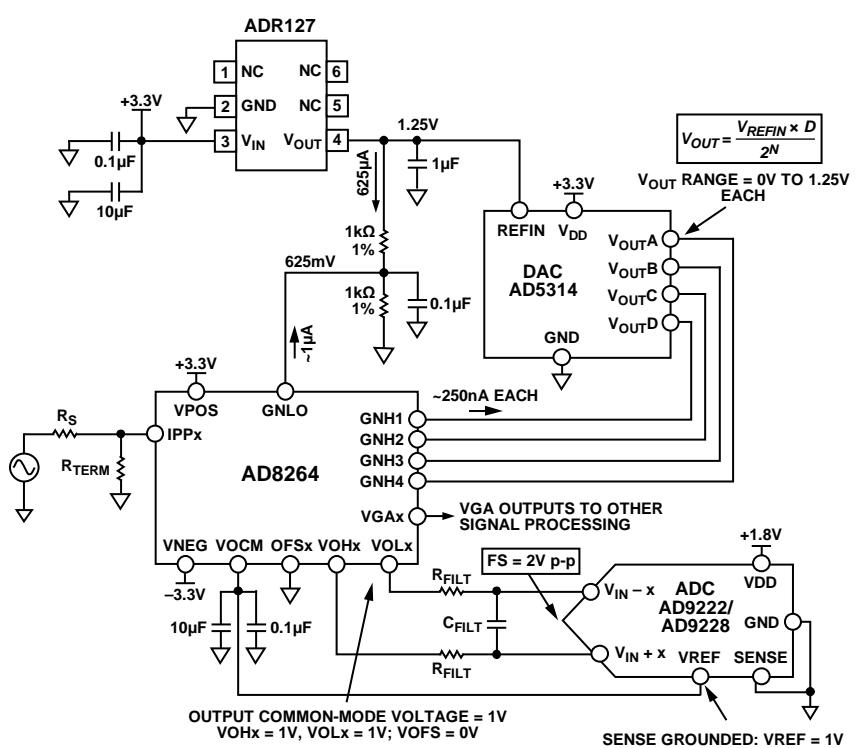
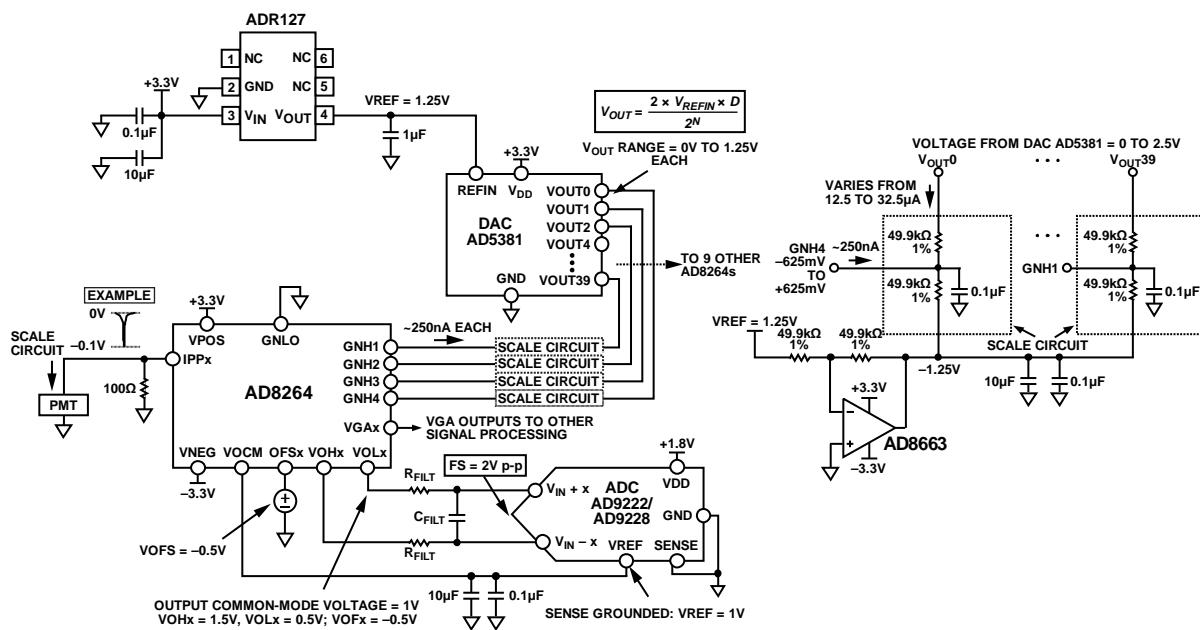

Figure 112. Application Concept of the AD8264 with the AD5314 10-Bit DAC and the AD9222/AD9228 12-Bit ADC
Figure 113. Concept Application of AD8264 with 40-Channel AD5381 12-Bit, 3 V DAC and AD9222/AD9228 12-Bit ADC
The AD8264 is particularly well suited for use in the analog front end of medical PET imaging systems. Figure 112 shows how the AD8264 may be used with the AD5314 (a 4-channel, 10-bit DAC) and the AD9222/AD9228 (an octal or quad, 12-bit ADC, respectively). The DAC sets the gain of the AD8264. Note that the full gain span of 24 dB is achieved with this setup because the gain control input range of the AD8264 is very close to 1.25 V. The GNLO pin must offset by $1.25/2 = 625$ mV because the gain control input is bipolar around the voltage applied at GNLO. This is done with two $1\text{ k}\Omega$, 1% resistors. The approximately $1\text{ }\mu\text{A}$ of bias current flowing from the GNLO pin does not contribute a significant error because the basic gain error of the AD8264 is the limiting factor.
Figure 112 also includes the DAC output equation, which indicates that the output can vary between 0 V and $V_{REF} = 1.25$ V.
The single-ended-to-differential amplifier of the AD8264 amplifies the VGA output signal by 6 dB and can provide the required dc bias of the AD9222/AD9228, as shown in Figure 112. The ADC is connected with the default internal reference because the SENSE pin is grounded. With this connection, the AD9222/AD9228 VREF pin is an output that provides 1 V; this is then connected to the VOCM input of the AD8264, which sets the output common-mode voltage of the VOHx and VOLx pins to 1 V. This voltage is very close to the recommended optimal value of $VDD/2 = 0.9$ V. With this configuration, the ADC inputs are set to a full-scale (FS) of 2 V p-p.
The dc connected concept example in Figure 113 is an application with the 40-channel **AD5381**, 3 V, 12-bit DAC. The main difference between this example and Figure 112 is that, for the same **ADR127** 1.25 V reference, the full-scale output of the DAC is from 0 V to $2 \times \text{VREFIN} = 2.5$ V. Two options for gain control include the following:
- Use the same circuit as in Figure 112 but use only half the DAC output voltage from 0 V to 1.25 V. This is the simplest solution, requiring the fewest extra components. Note that the overall gain resolution increases by one bit to 11 bits over the 10-bit **AD5314**.
- Ground GNLO and scale the DAC output so that the GNHx inputs vary from -0.652 V to $+0.625$ V. Figure 113 shows a possible circuit implementation using a divider between the DAC output and a -1.25 V reference.
Figure 113 shows how the AD8264 is connected in a PET application. The PMT generates a negative-going current pulse that results in a voltage pulse at the preamplifier input and a differential output pulse on VOLx and VOHx.
A convenient method of verifying and customizing the signal chains shown in Figure 112 or Figure 113 is by ordering the corresponding evaluation boards available on www.analog.com. The AD8264-EVALZ is a platform through which the user can quickly become familiar with the features and performance capabilities of the AD8264. See the Evaluation Board section for more information.